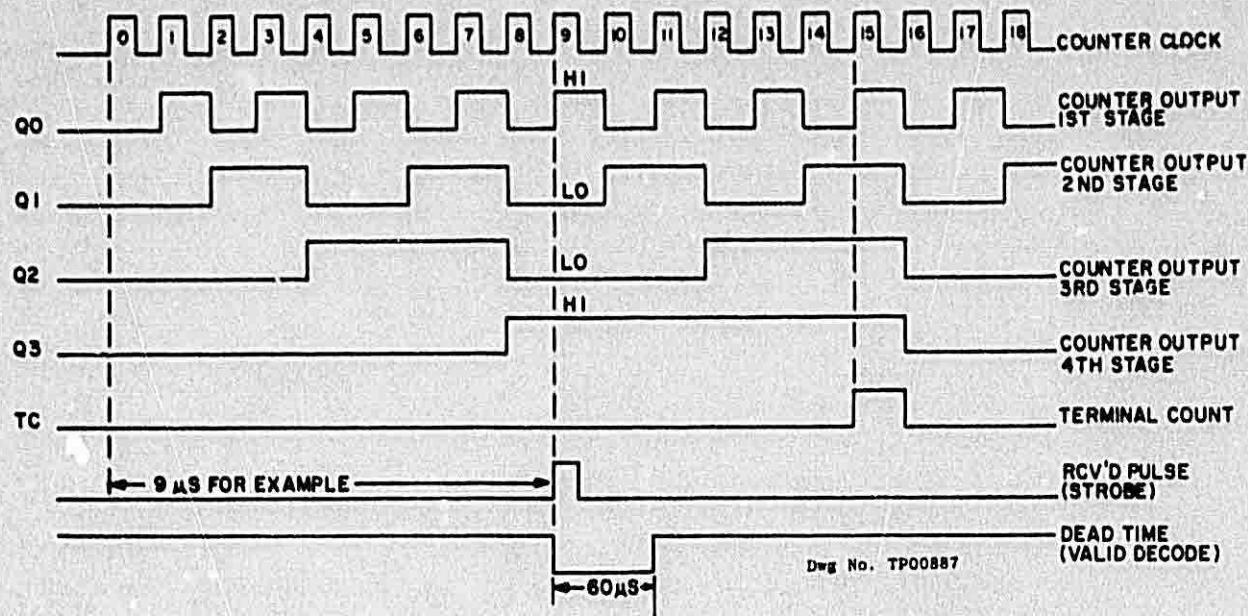

FIGURE 4-5. SEARCH TRACK TIMING DIAGRAM
During actual operation, the display is in increments of 0.1 nautical mile. The Search Track Counters count increments of 1.0 microseconds obtained from the divided down ( $\div 4$ ) crystal controlled 4 MHz clock. The counters are started by the "Search Enable" port from the microprocessor 53 us after the "encode" port has turned on the transmitter. The 1 MHz clock pulses are fed into the counters without interruption. A single Search Track counter consists of four edge triggered "D" flip-flops (F-F) in series, capable of 16 counts. The counters output is in a binary format. Each of the four output lines is capable of indicating the logic state of its associated F-F, a "1" (high) or "0" (low). Also there is a Terminal Count (TC) output line which is fully decoded and is high only on the 15th count and returns to logic low on the 16th count. The TC output from the first counter is connected to the "Count Enable Trickle" (CET) input of the second counter, and the TC output of the second counter is connected to the CET input of the third counter. The Count Enable Trickle input must be logic high to enable the counter. A logic low at the CET input inhibits the count sequence and freezes the output lines in their existing states at the time the CET input goes logic low. The condition of each output line is shown in Figure 4-5.
To satisfy these operating conditions, apply the control signals to the Search Track Counters. The "data clear" line from the microprocessor has set all the counters and latches to their zero state (all four output lines are logic low). The uninterrupted 1 MHz clock is present at the clock input of the counters. The "search enable" line from the microprocessor goes to logic high, enabling the counters. As the clock pulses are loaded into the counter, the count progresses in a binary sequence as shown in Figure 4-5 and Table 4.3.
If, at the count of 9, a reply strobe pulse is fed into the 6 bit latches, as shown in Figure 4-5, the data at the latch inputs (Q0/Q3 are high, Q1/Q2 are low) will be transferred to the latch outputs for the microprocessor to read. At the same time the latches are being strobed, the "Dead Time" multivibrator is triggered (60 us), and its output is the "Valid Decode" input to the microprocessor. Upon receipt of the Valid Decode, the microprocessor accepts the data from the latches and during the 60 microsecond duration of the multivibrator it will not accept any new data. This 60 us Dead Time is to suppress echoes (signal multipath).